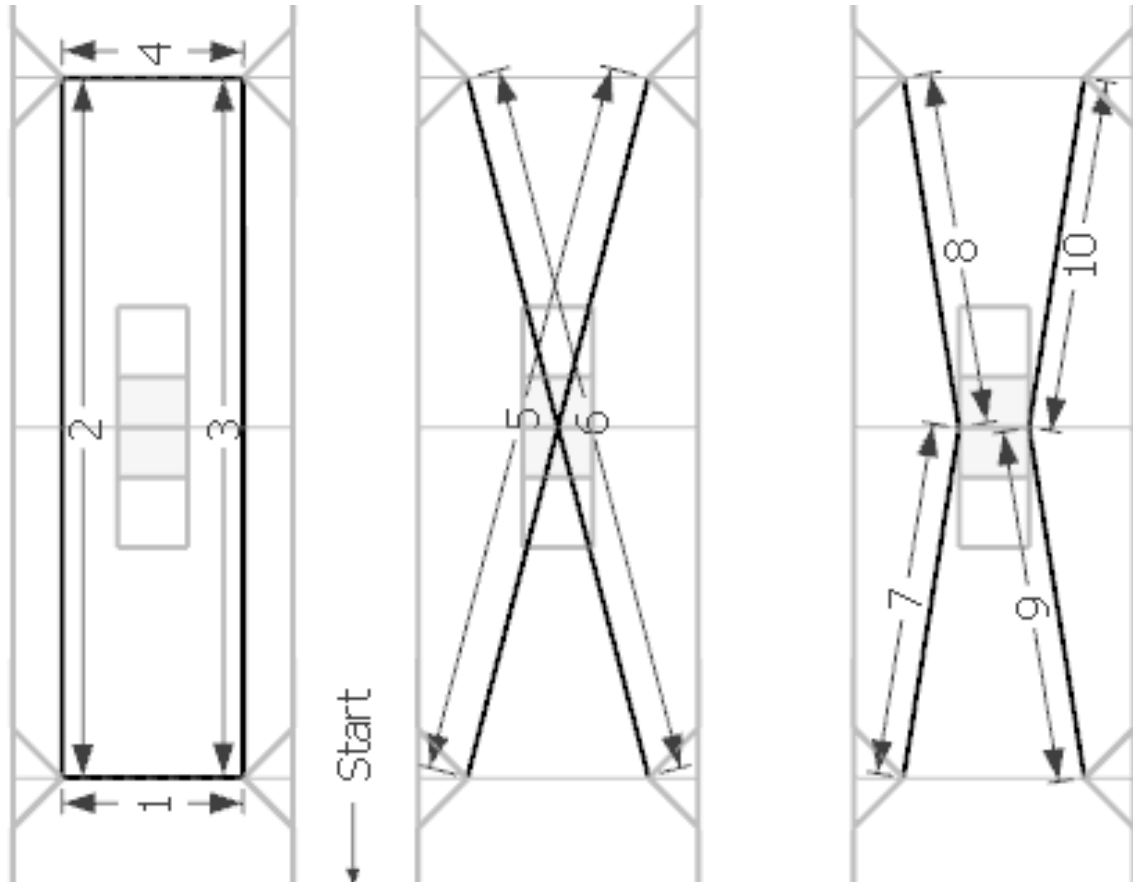

Figure 6 Fiducial Tape-Measurement
3. Record the following ground-truth measurements on camera to an accuracy of 0.5in without stopping the video. You will later need to record the reference dimensions in your scoresheet. For fiducial measurements, you will measure to the top corners of fiducials. The floor fiducial has both upper corners exposed; you will use the nearest of the upper corners when taking measurements 7-10, as shown in Figure 6. Left and right orientations are referenced from the starting line. Note the fiducial measurements may not be symmetrical if you need to adjust a fiducial along the Y-axis earlier to clear existing features in the space.